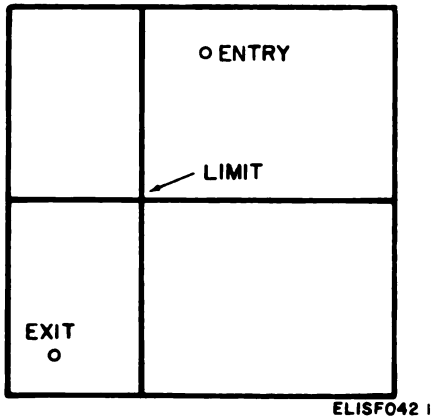

Figure 3-17.1. Strobes have reached their limit.
a. Rotate the Δ AZIMUTH and Δ RANGE controls to their limits toward the exit mark (fig. 3-17.1).